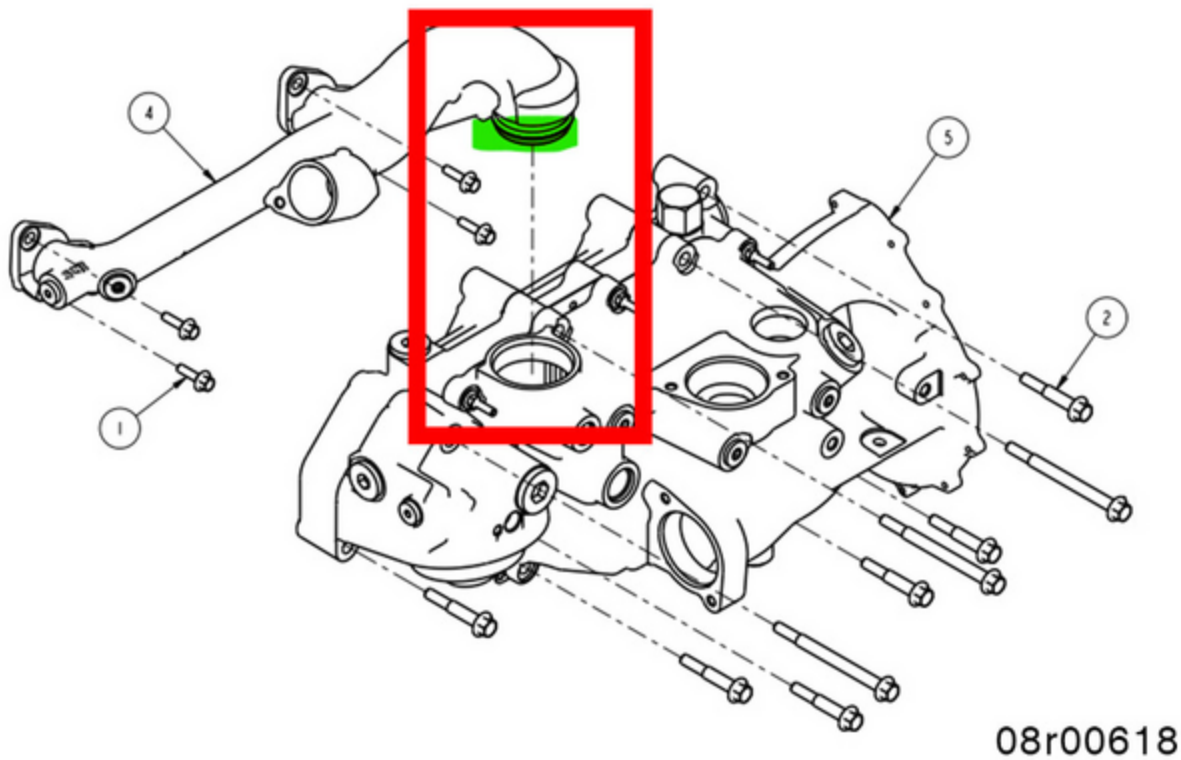

Figure 1, Coolant Leak Location Root Cause:
- If the connection shown in Figure 1 is leaking coolant and there is **not** a paint mark on the top of the water manifold, the manifold is **not** in specification.